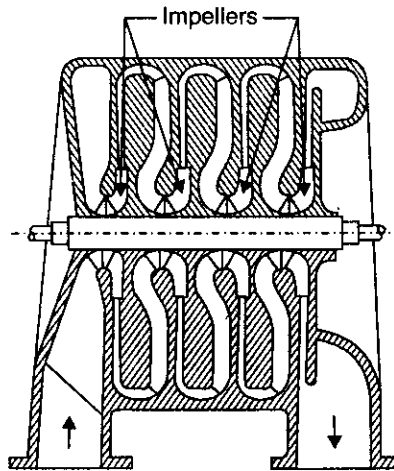

Fig. 5.32. Multistage single flow axial compressor.
- The '*axial flow compressors*' are commonly used in gas turbine installations. An axial flow compressor consists of a series of rotor and stator stages with decreasing diameters along the flow of air. The blades are fixed on the rotors and rotors are fixed on the shaft. The stator blades are fixed on the stator casing. The stator blades guide the air flow to the next rotor stage coming from the previous rotor stage. The air flows along the axis of the rotor. The kinetic energy is given to the air as it passes through the rotor and part of it is converted into pressure. A multistage single flow axial compressor is shown in Fig. 5.32.